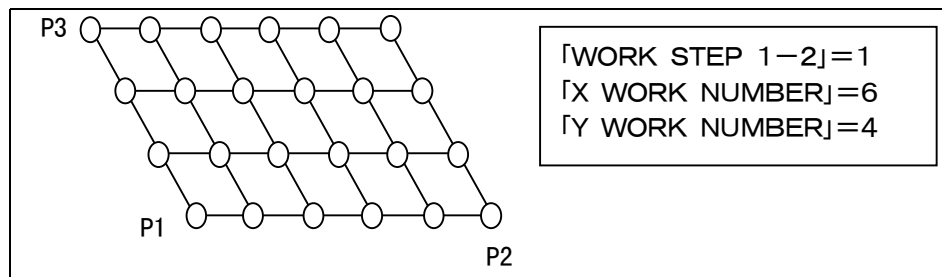
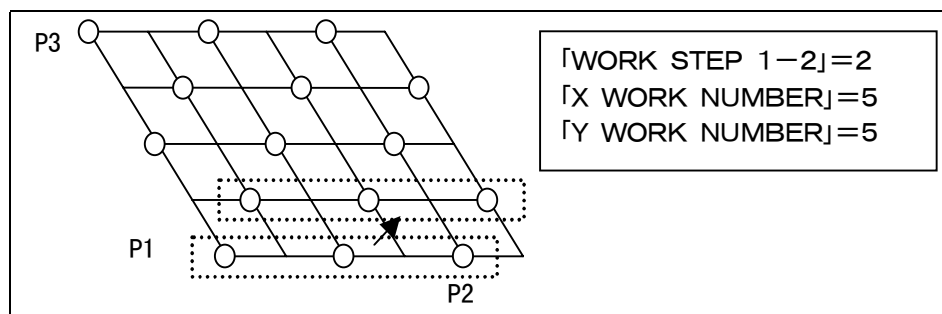

Fig. 12.9 Example①
Fig. 12.10 Example②
Specify the number of rows between P1 and P2 (on X-Axis). Refer to example① in Fig.12.9 and example② in Fig.12.10.
Specify the number of lines between P1 and P3 (on Y-Axis). Refer to example① in Fig.12.9 and example② in Fig.12.10.
Specify the method to create addresses for palletizing. The valid value is either “1” or “2.” If a value other than 1 and 2 is specified, the system will calculate in the same way as method “1.” When you input “1,” the position data will be created (calculated) based on the matrix (grid) illustrated in example① in Fig.12.9.
When “2” is specified, the position data will be calculated based on a shifted pattern as illustrated in example② in Fig.12.10, where every second rows and lines of the matrix are used. (You can select a shifting pattern by specifying a value for 「WORK PATTERN」.) Specifying 「X WORK NUMBER」=5, it is considered as five rows between P1 and P2 (on X-Axis) exist and the exceeding rows more than the specified number “5” will be ignored and will not be counted.